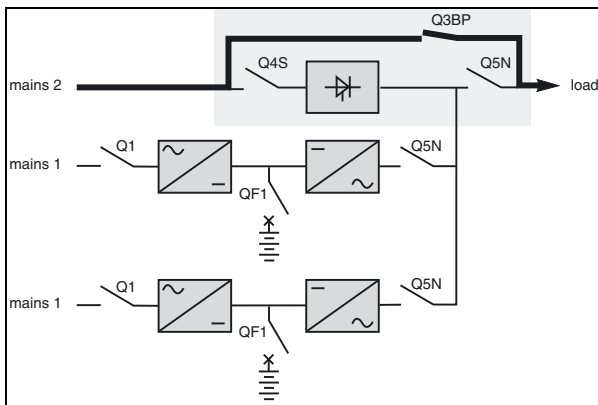

Fig. 29
Static Switch Cubicle (figure 29)
- open switches Q5N, then switch Q4S on all the UPSs (figure 29).